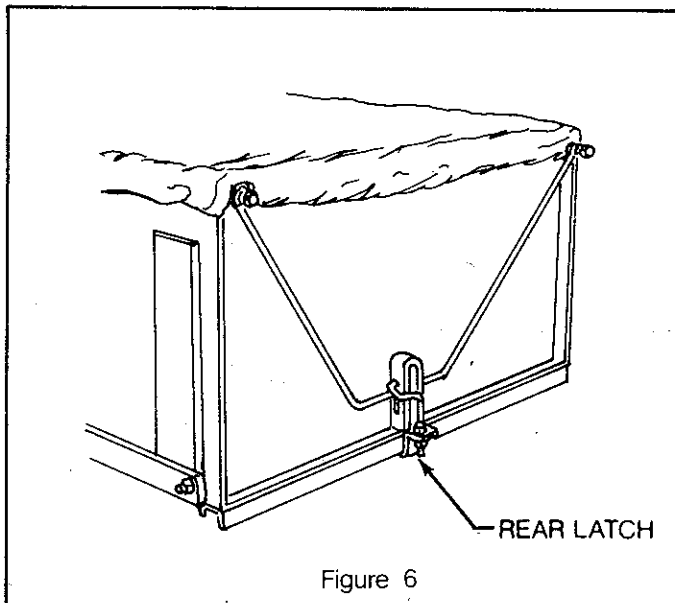

Figure 6
2. Lay the assembly on the cart with the canvas side flaps inside the cart. Engage the front stops over the box front edge, then pull the rear latch down and hook it under the box rear edge (Figure 6).